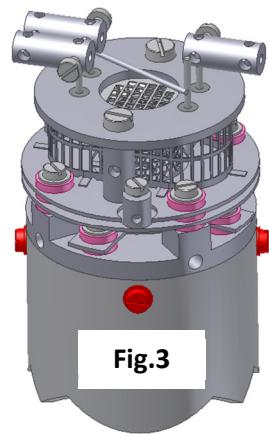

Fig.3
- Remove the four M2 x4 screws and shakeproof washers highlighted in red that hold the source assembly to the filter assembly, see Fig.3.
5. Remove the three M2 x4 screws and shakeproof washers highlighted in red that hold the source assembly to the filter assembly, see Fig.3.